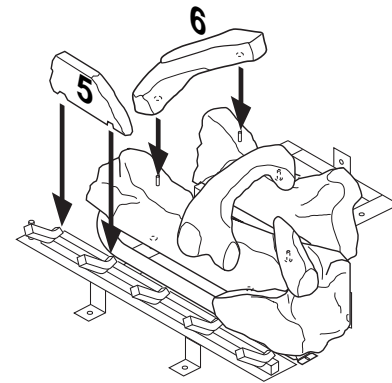

Figure 44 - Installing Logs No. 5 and No. 6
- Place log #5 (base log) onto the front left part of the grate making sure the notches fit over the prongs of the grate). See Figure 44.
- Place log #6 (left log) onto two pins on the left side of back and front log. See Figure 44.